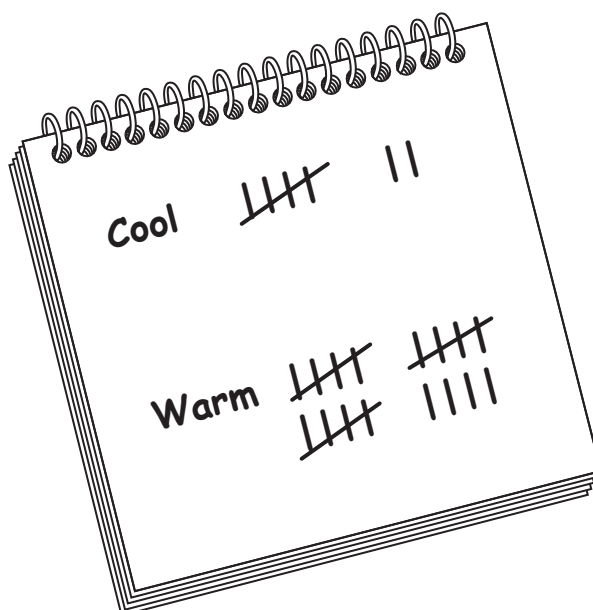

Fig. 1.2
- Step 3 The student counted the number of gas bubbles produced by the yeast suspension in five minutes and recorded the results in a tally chart. This is shown in Fig. 1.2.
- (a) (i) Prepare a table and record the student's results shown in Fig. 1.2.